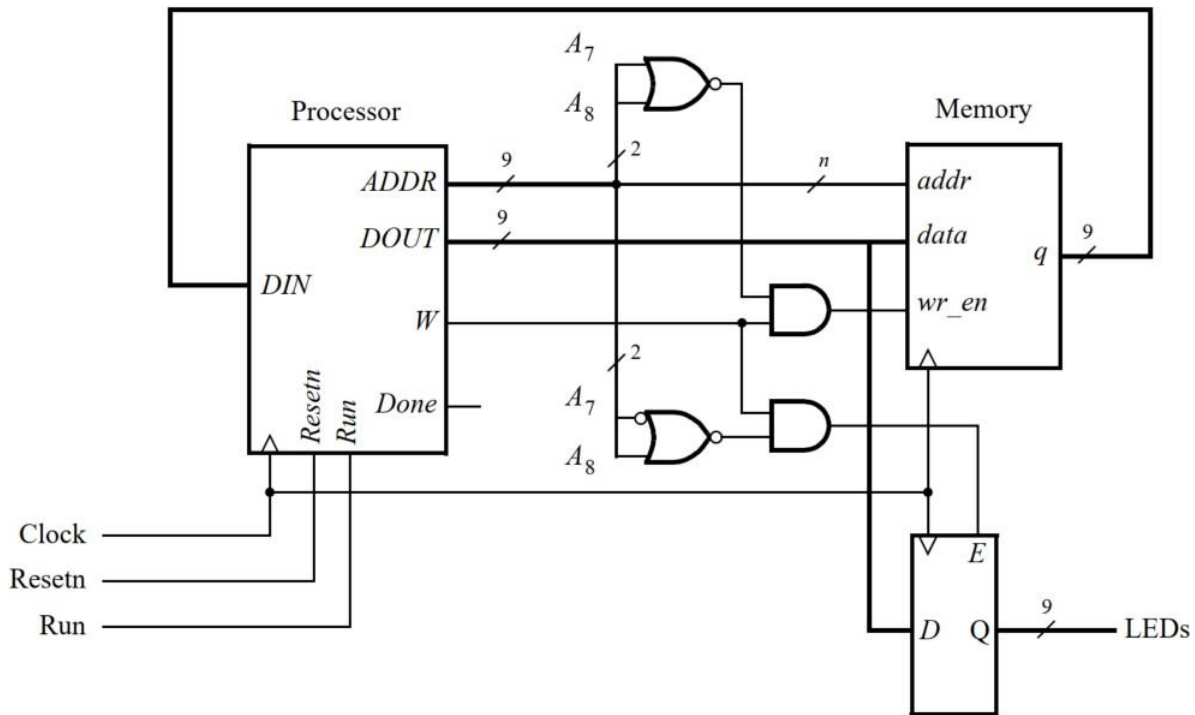

Figure 2: Connecting the enhanced processor to a memory and output register.
- Write System Verilog code for the processor and test your circuit by using functional simulation: apply instructions to the DIN port and observe the internal processor signals as the instructions are executed. Pay careful attention to the timing of signals between your processor and external memory; account for the fact that the memory has registered input ports, as we discussed for Figure 2.
- Create another Quartus project that instantiates the processor, memory module, and register shown in Figure 2. Use the Quartus IP Catalog to create the RAM: 1-PART memory module. Follow the instructions provided by the wizard to create a memory that has one 9-bit wide read/write data port and is 128 words deep. Ensure that the output is not registered. Use a MIF file to store instructions in the memory that are to be executed by your processor. An example program in the form of a MIF file is shown in Figure 3. This program display an 8-bit counter value on the
use the board's 50 MHz clock signal as the Clock input. Since the circuit needs to run properly at 50 MHz, make sure that a timing constraint is set in Quartus to constrain the circuit's clock to this frequency. Read the Report produced by the Quartus Timing Analyzer to ensure that your circuit operates at this speed; if not, use the Quartus tools to analyze your circuit and modify your Verilog code to make a more efficient design that meets the 50-MHz speed requirement. Also note that the Run input is asynchronous to the clock signal, so make sure to synchronize this input using flip-flops. Connect the LEDs register in Figure 2 to LEDR8–0 so that you can observe the output produced by the processor.